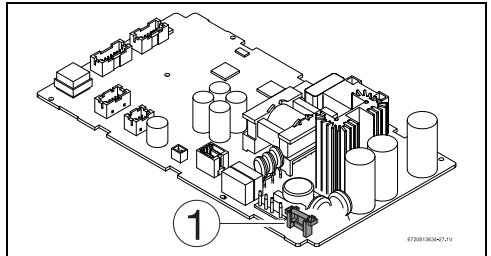

Fig. 25 Fuse position
- ▶ Check the fuse on the printed circuit board for electrical continuity, see fig. 25, [1].